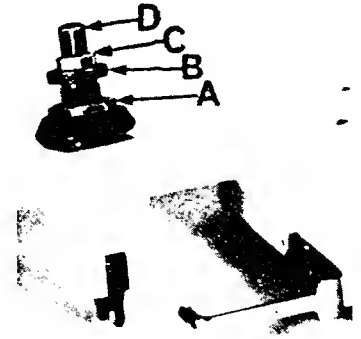

Fig. 2
Sufficient presser foot pressure to feed work uniformly should be maintained. Should it be necessary to increase or decrease amount of pressure on presser foot, loosen lock nut (A, Fig. 2) and turn adjusting screw (B). Adjusting screw has a right hand thread so tightening increases pressure, loosening decreases pressure. When pressure adjusting screw (B) has been properly set, tighten lock nut (A). With presser foot resting on throat plate, position locking nut (C) so that its under surface is approximately  $1/32$  to  $1/16$  inch (.79 to 1.59 mm) from the top surface of adjusting screw (B). Set cap (D) against locking nut (C).